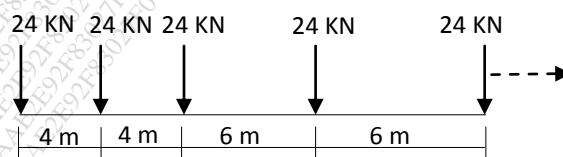

Fig.3
Q.9 A train of a wheel load as shown in fig.3 crosses a simply supported beam of span 20m from left to right with 24 kN load leading. Using I.L.D. determine the maximum bending moment under central load. 15